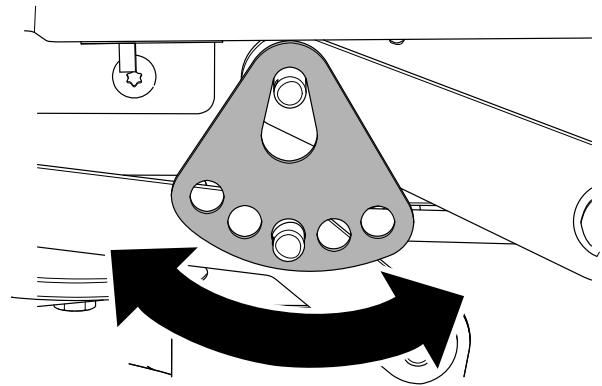

Figure 62
- Rotate the height-of-cut plate to a different hole so that it supports the weight of the mower deck after you install the plate (Figure 62).